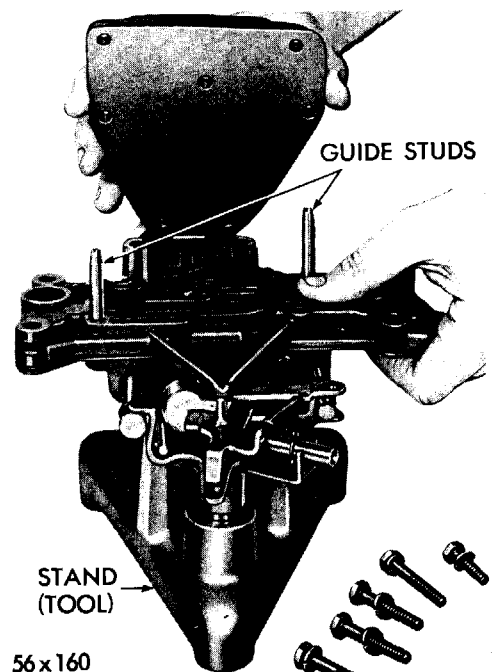

Fig. 43—Valve Body and Transfer Plate Assembly in Stand
in stand, Tool C-3294 (if not previously done so) (Figure 43). **Do not use vise to hold valve body and transfer plate.**
(2) Remove two of the long transfer plate cover bolts and lockwashers and install guide studs, Tool C-3295.
(3) Keeping finger pressure against transfer plate, remove the remaining three (2 long and 1 short) transfer plate cover bolts, and remove transfer plate cover as shown in Figure 43.